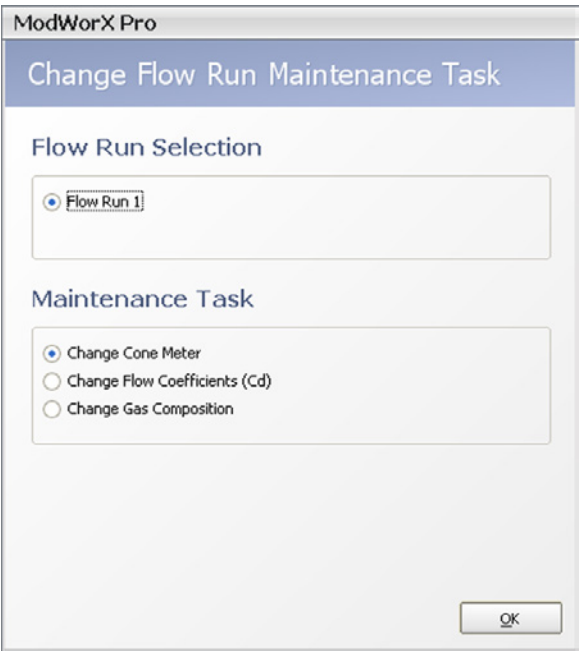

Figure 10.2
2. Click **Yes** at the Enter Maintenance Mode prompt. The Change Flow Run Maintenance Task screen will appear (Figure 10.2, page 140).